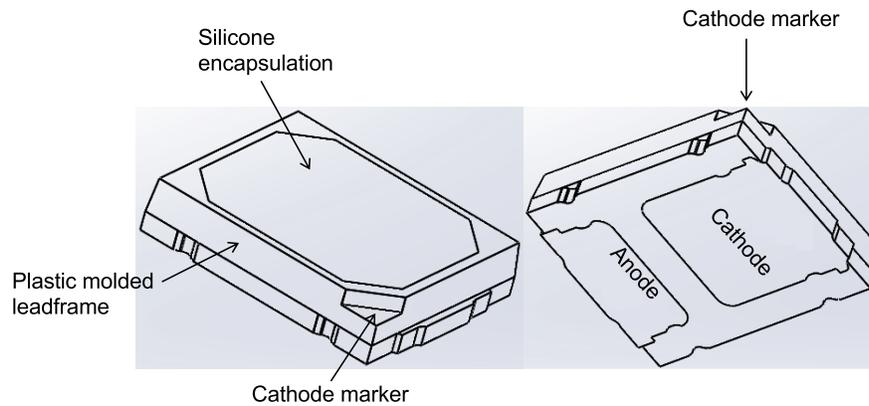

Figure 1. Package rendering of the LUXEON 2835 Commercial.
The LUXEON 2835 Commercial emitter (see Figure 1) is a plastic molded, no-lead, surface mount package consisting of an anode and a cathode. A chamfer on the corner of the package marks the cathode side of the emitter package. Majority of the heat is being dissipated through the larger pad (cathode). For the LUXEON 2835 package, without the option of a transient voltage suppressor (TVS) chip to protect the emitter against electrostatic discharges (ESD), appropriate precautions should, therefore, be taken when handling such device (see Section 5.5).
2. The nozzle outer diameter or size should also not be smaller than the silicone encapsulant surface (Figure 1 and Figure 5) otherwise this may allow the nozzle tip to be in full contact with the encapsulant area and may cause damage to the surface or cause pick-up/release issues. Note that the encapsulant is typically recessed below the white plastic housing and assuming a nozzle tip that is planar, the nozzle tip is able to rest on the edge of the white plastic housing and not in full contact with the encapsulant.